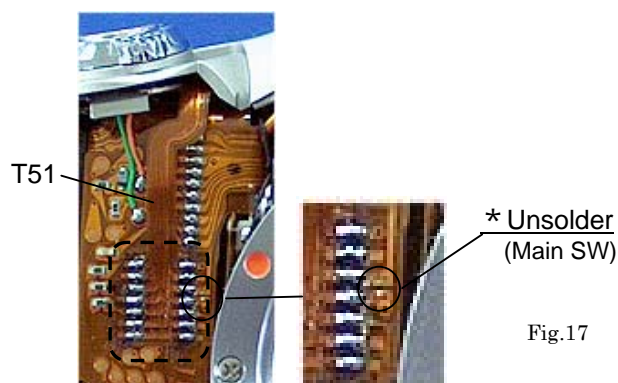

Fig.17
- Unsolder on the Main SW lands of 0-T100 (\* Unsolder) as shown Fig.17.
1. Short-circuit the Main SW lands of 0-T100 by soldering as shown in Fig.17.